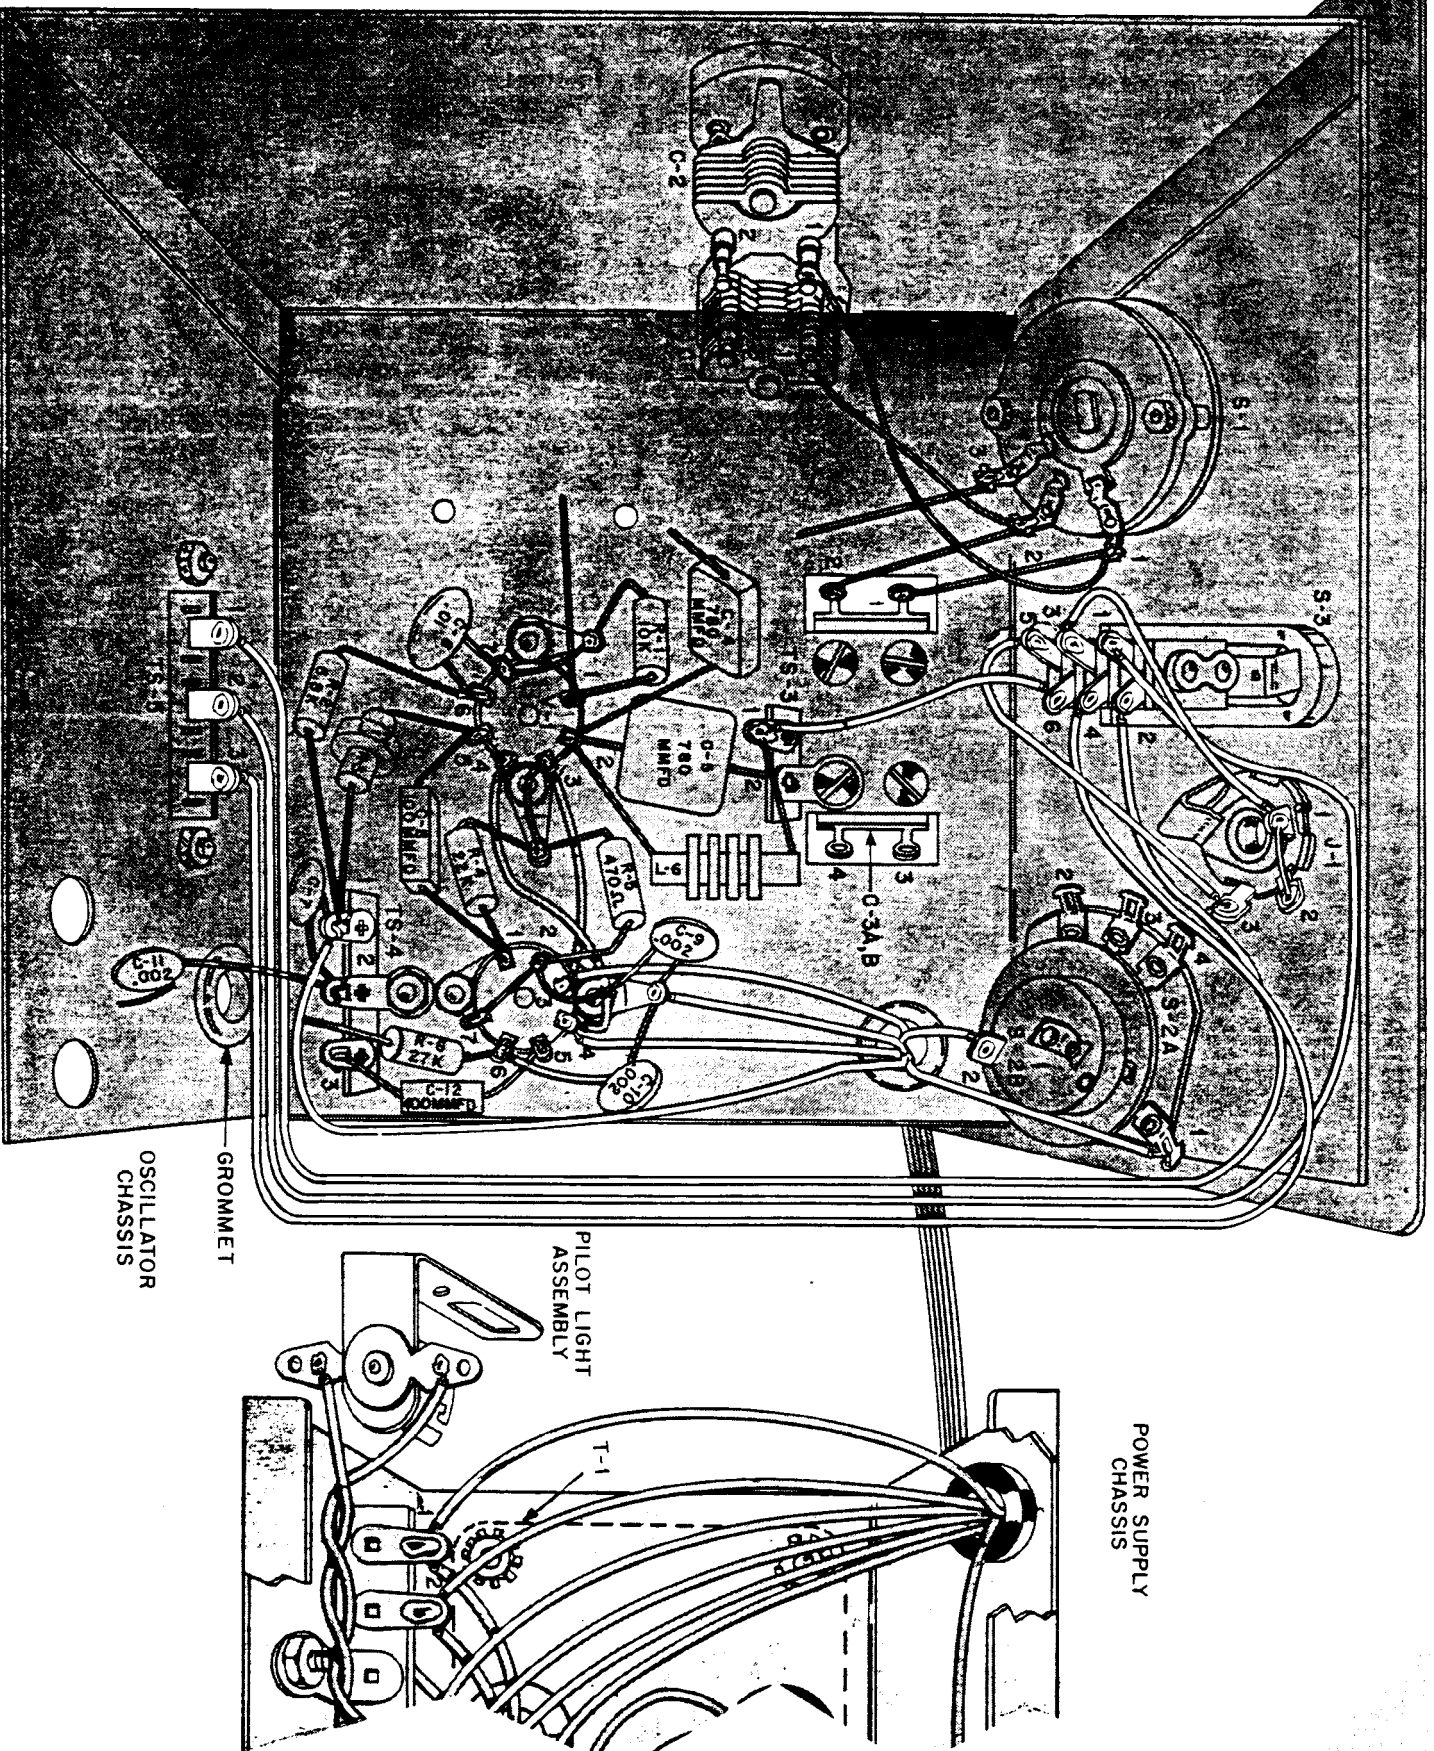

FIGURE 10. SECOND WIRING VIEW, OSCILLATOR CHASSIS AND WIRING BETWEEN THE POWER SUPPLY AND OSCILLATOR CHASSIS
SEE FIGURE 10.
- () Solder one end of a white-orange wire to terminal 3 of TS-5. Bring it over to the edge of the open side of the chassis, along the side of the chassis to the front, and across to S-3, as shown in Figure 10. Solder the other end to terminal 4 of S-3.
- () Check all of the work against Figure 10.